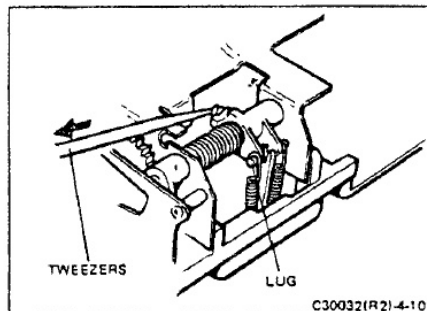

FIGURE 4-101 REMOVING FRESNEL CARRIER DRIVE SPRING
10. Refer to Figure 4-101. Use tweezers and slip the hooked end of the Fresnel carrier drive spring off its retainer on the drag link bell crank. Free it from the lug of the overdrive spring.
- Referring to Figure 4-101, connect the Fresnel carrier drive spring to the drag link bell crank.